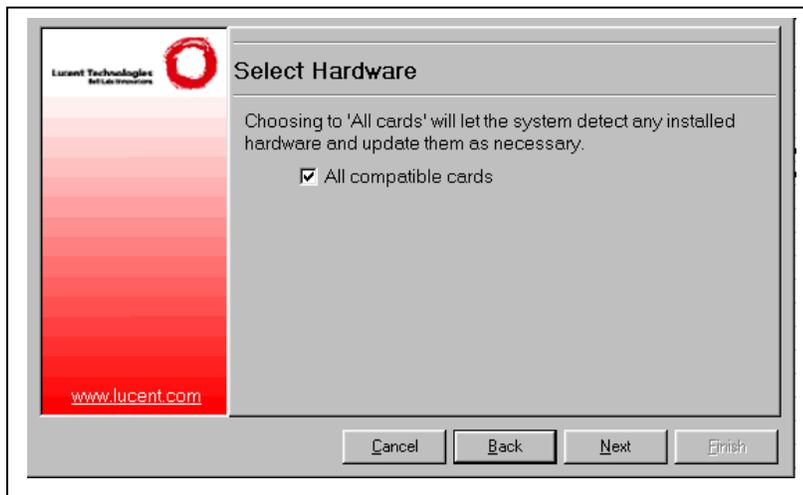

Figure 5.16. Select hardware
3. At default, all cards will be updated with the new password information. If only certain cards should be updated, deselect the **All compatible cards** check box, (see Figure 5.16 below) otherwise click **Next** and proceed to step 5.